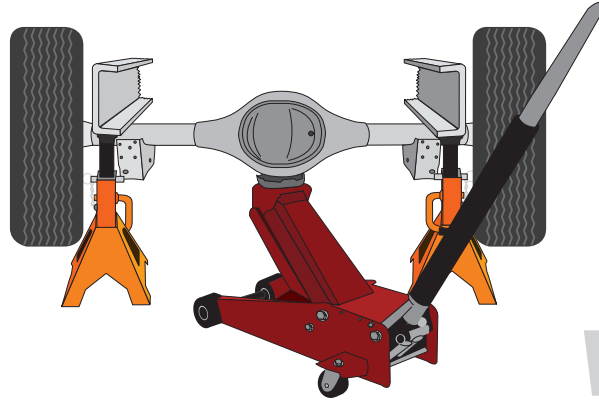

fig. 2
1. Lift the vehicle and support the frame with safety stands. Leave enough room to drop the axle down low enough to install the air spring assemblies into position between the axle and the frame (Fig. 2).